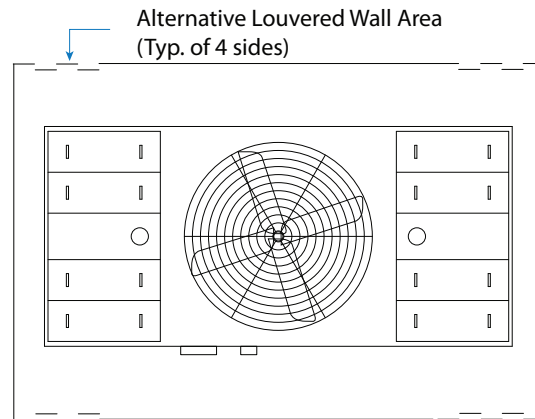

Figure 5. Plan View of Dual Air Intake Unit with Alternate Louver Arrangement
- b. If the available space does not permit the unit to be arranged with the air intakes facing the louvered or slotted walls and the enclosure cannot be modified to permit such an arrangement, consider the alternative illustrated in **Figure 5** on **Page 9**. This arrangement should be restricted to one-cell or two-cell installations. The effective area of the louvers is only the length extending beyond the width of the unit.